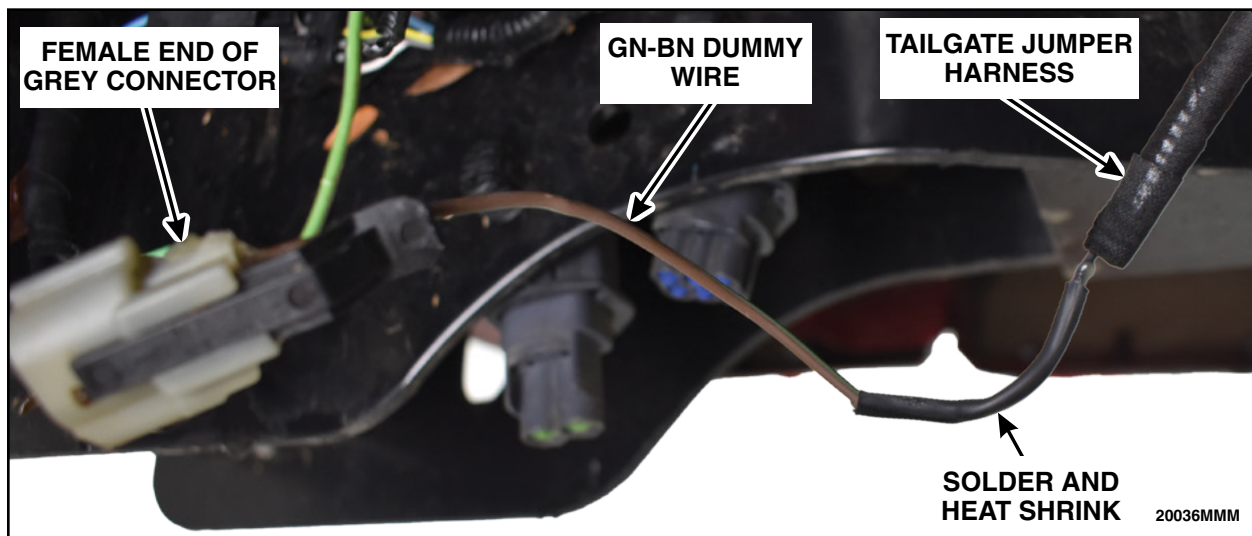

FIGURE 68
92. Solder and heat shrink the Tailgate Jumper Harness to the GN-BN dummy wire of the grey 2 pin female end connector. See Figure 68.